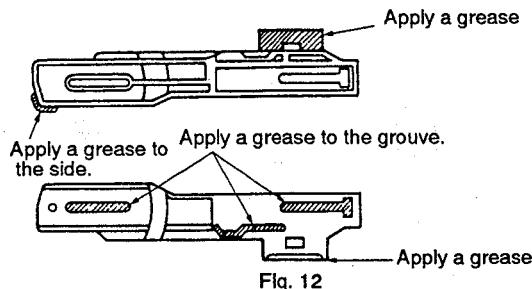

Fig. 12
- ③ Install the cam gear in the position where projection B of the cam gear comes to the front of the follow gear installation shaft..
- ① Grease the spring slanting cam. (Fig. 12)